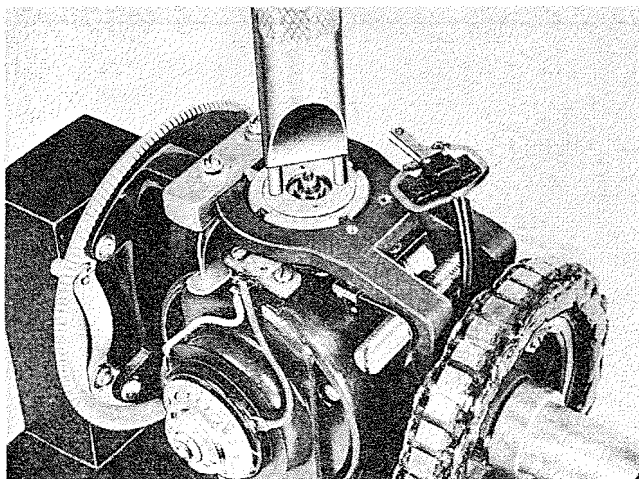

Figure 30
4. Rotate the vertical gimbal until one of the bearing caps is uppermost. Using wrench T100430 or T100662, unscrew and remove the bearing cap. (See figure 30.)